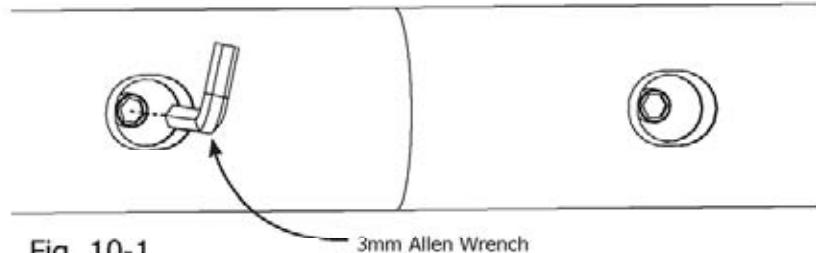

Fig. 10-1
**Note:** Loosen M6 x 10mm Set Screws if the Rail Couplers do not easily slide into the rail ends. (Fig. 10-1)
**10-1-C:** Unfasten the Non-Ratcheting End Insert from a Rail Non-Ratcheting End with a 6mm Allen Wrench. Insert and fasten the Non-Ratcheting End Insert into the Rail Ratcheting End. (Fig. 10-1-C)